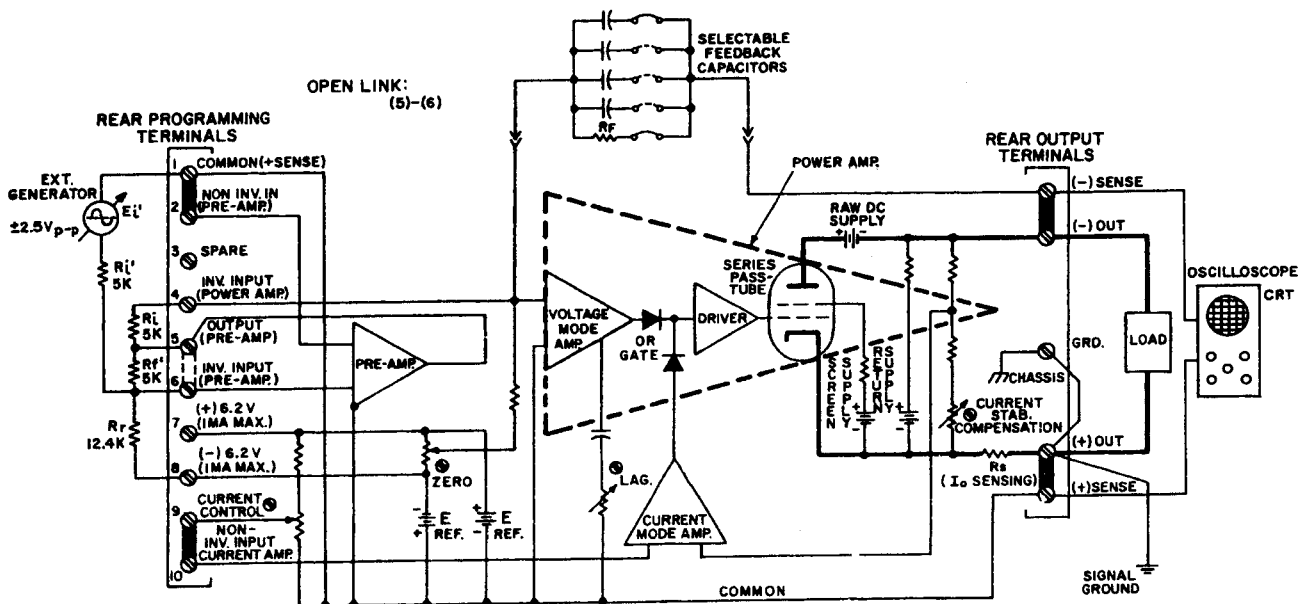

FIG. 3-12 CONNECTIONS FOR AMPLIFYING A BIPOLAR INPUT SIGNAL.
- 1) Connect the generator ( $E_i$ ), the LOAD and an oscilloscope (CRT) to the OPS as shown in FIG. 3-12. FOR INTERCONNECTION DETAILS AND SAFETY PRECAUTIONS TURN TO THE "WARNING" PARAGRAPH ON PAGE 3-3.